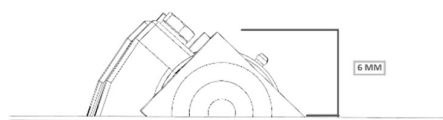

Figure 45: Crank of Front Hayfork
- Front hayfork crank must be 5 or 6 cm from its corner to safeguard (Figure 45) .